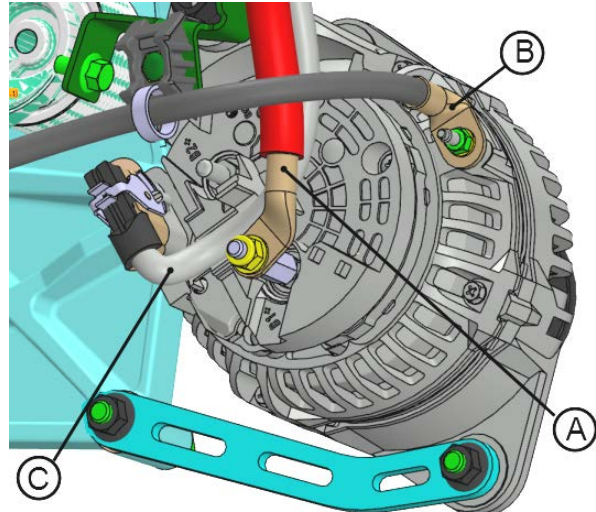

FIGURE 47
7. Connect the (+) power cable **A**, the ground cable **B** and alternator harness **C** to the alternator (**FIGURE 47**).